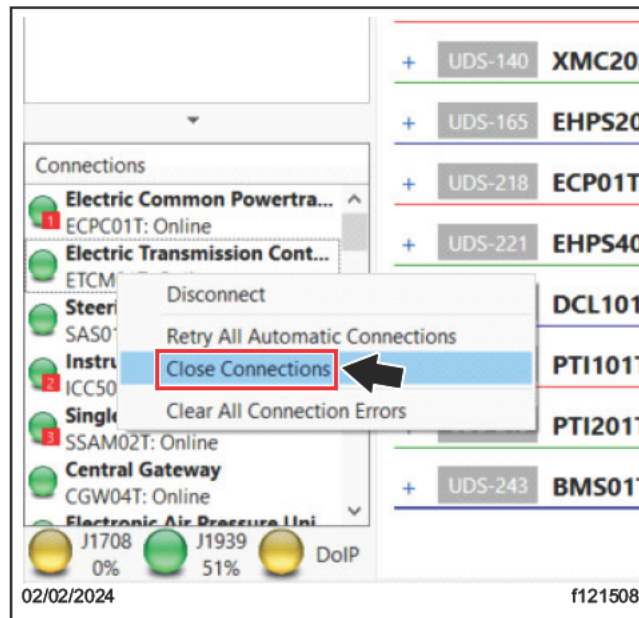

Fig. 33, Closing Connection to all the ECUs
17.1 Right-click on the 'Connections' panel, located in the bottom-left corner of the screen, then select 'Close Connections.' See Fig. 33.